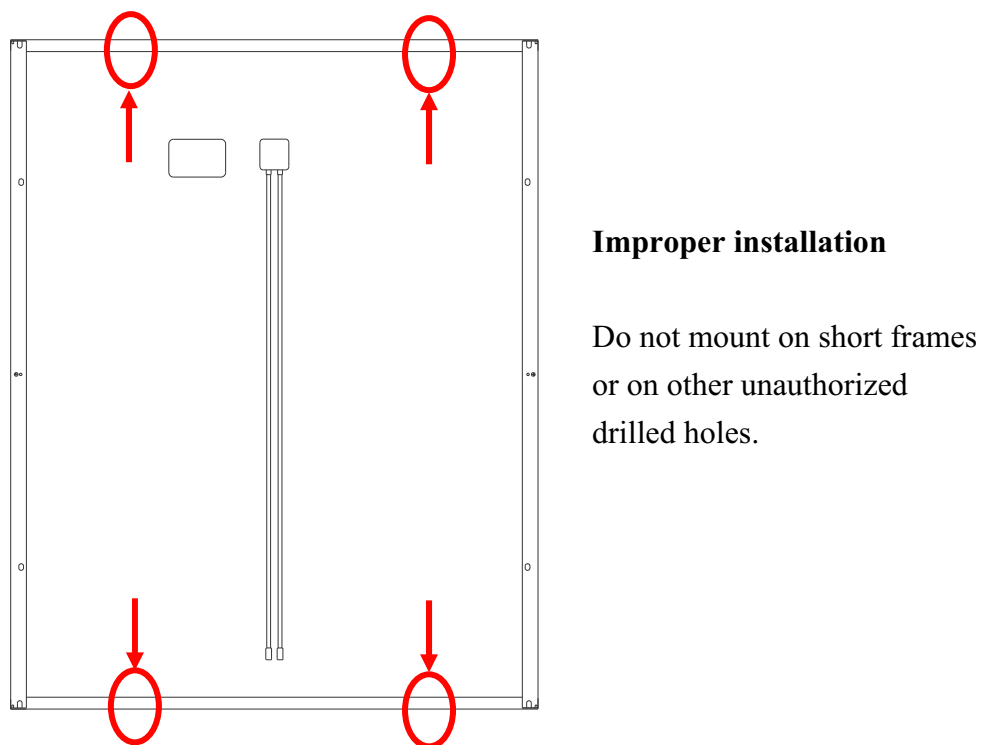

Figure3 : Invalid mounting points of the PV module on the short frames.
- Do not mount on short frames or on other unauthorized drilled holes. Doing this will result in a high risk of module failure and invalid the warranty. (Figure3)